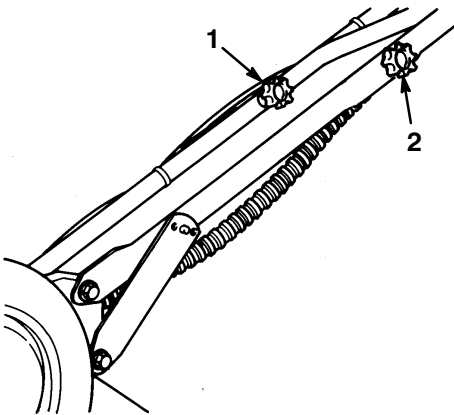

Figure 2
2. Remove the left knob and bolt from the outside of the handle (Fig. 2).